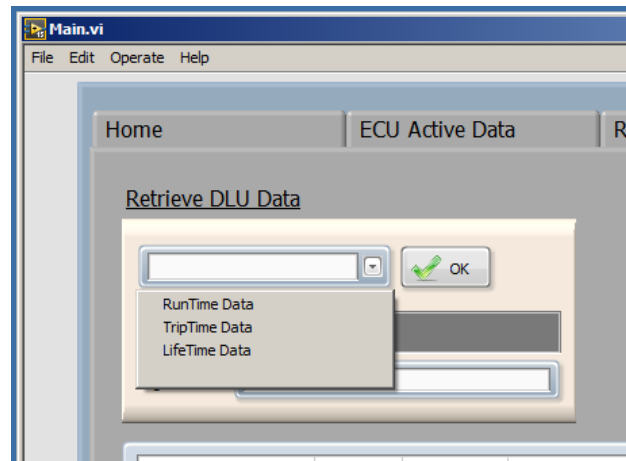

Figure C-33
3. From the “Retrieve DLU Data” drop-down menu (Figure C-33) select the following option: